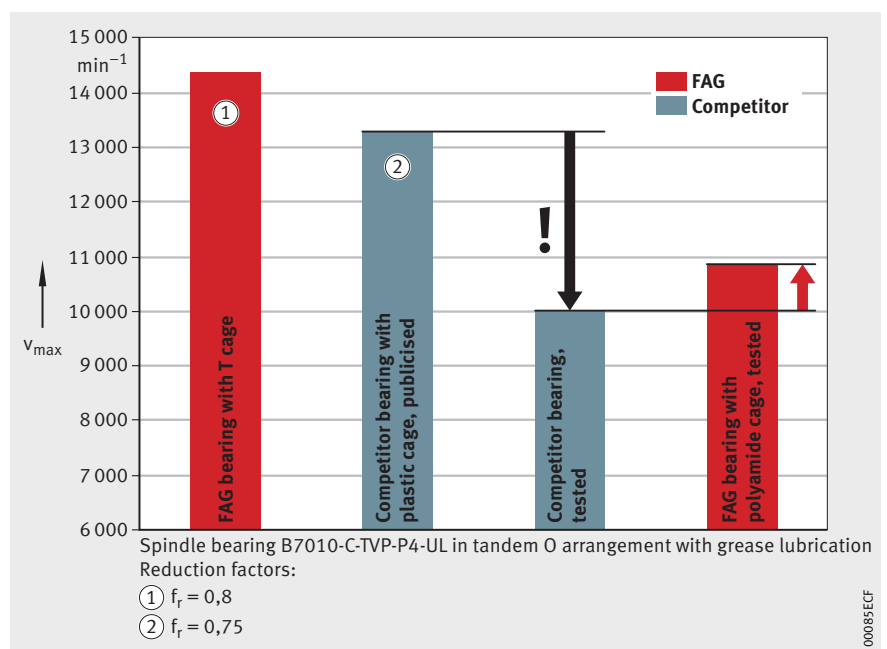

Figure 3: Comparison of speeds
- higher limiting speeds compared to competitor products, *Figure 3*